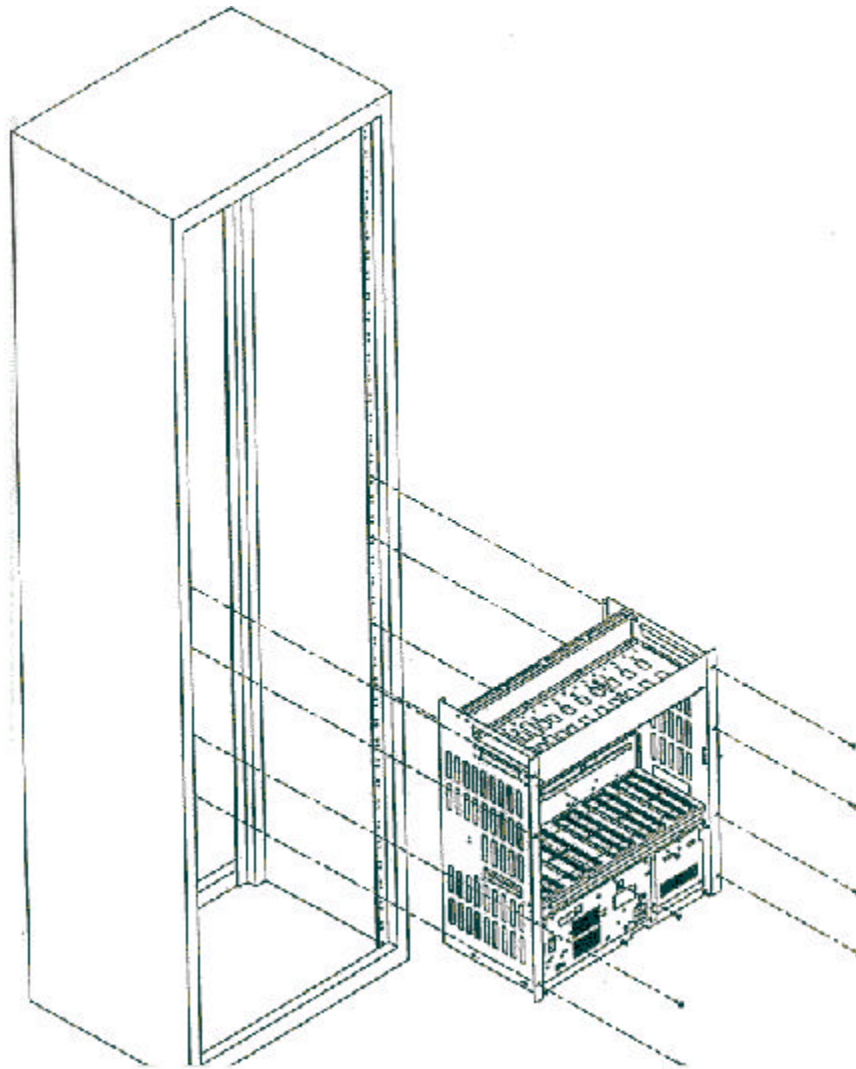

Figure 2-16: Mounting the RPC in the Rack
6. Insert the RPC in the rack and fasten to the rack with 8 screws as indicated in Figure 2-16.